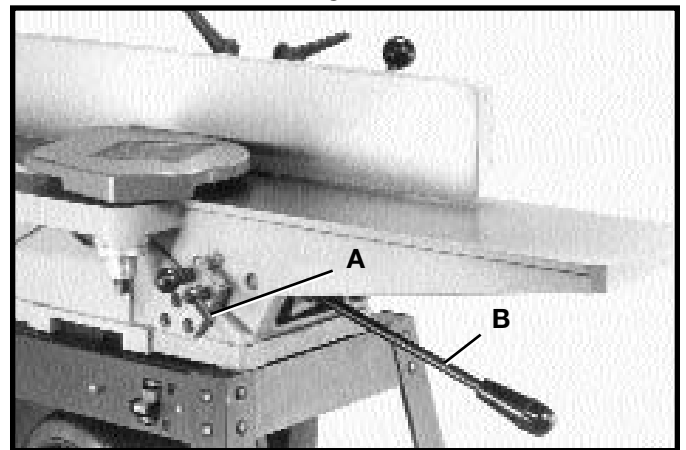

Fig. 35
1. To raise or lower the infeed table, loosen table lockhandle (A) Fig. 35, move the table raising and lowering hand lever (B) up or down until the table is at the desired position and tighten table lockhandle (A).